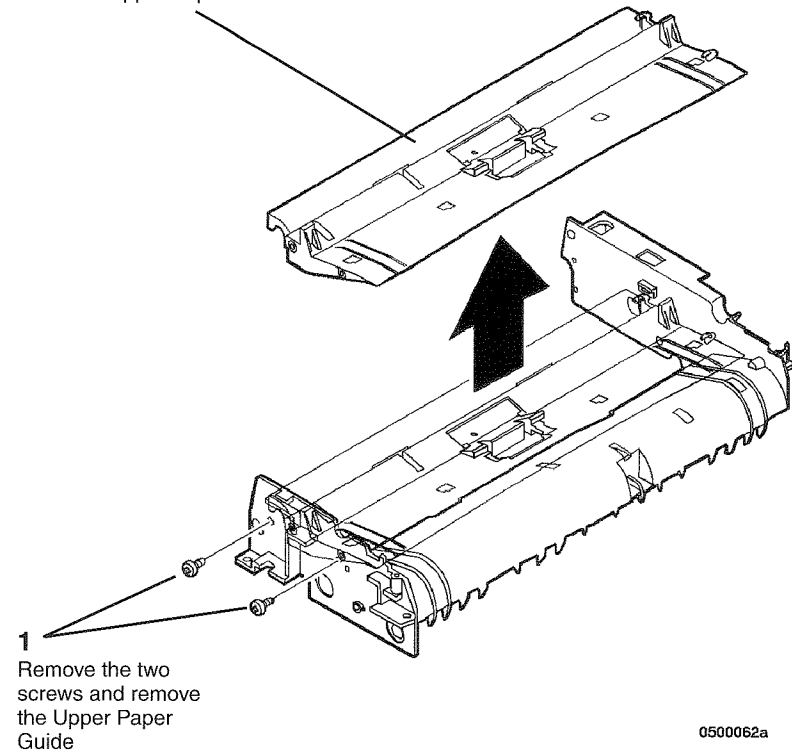

Figure 2 Removing the Upper Paper Guide
6. ( Figure 2): Remove the Upper Paper Guide